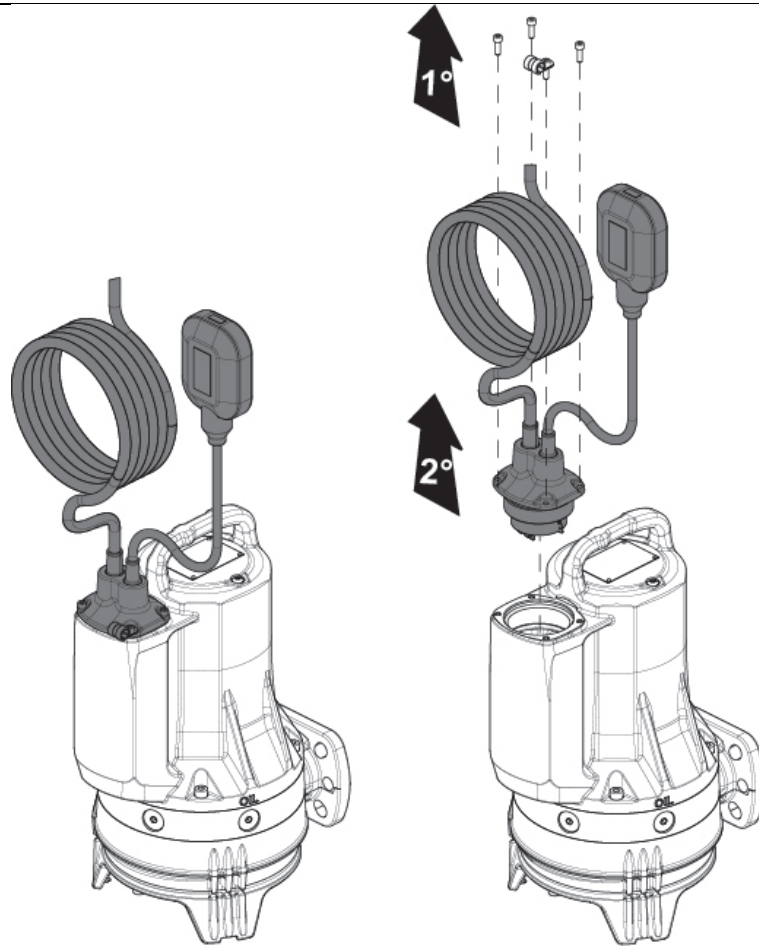

Fig.13
- **Float replacement (Fig.13)**